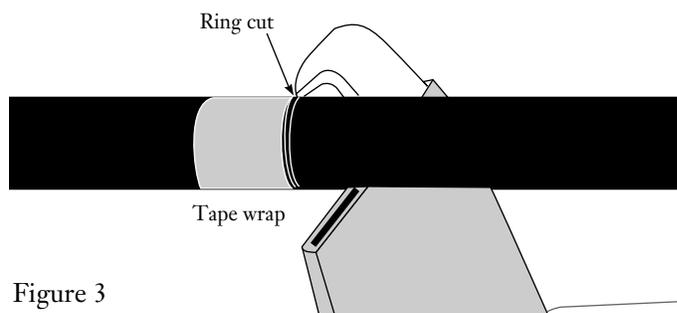

Figure 3
4.2 Taking care not to cut or flex the armor, use the hook blade knife to make a *shallow* ring cut through the black outer sheath at the tape mark (Figure 3).